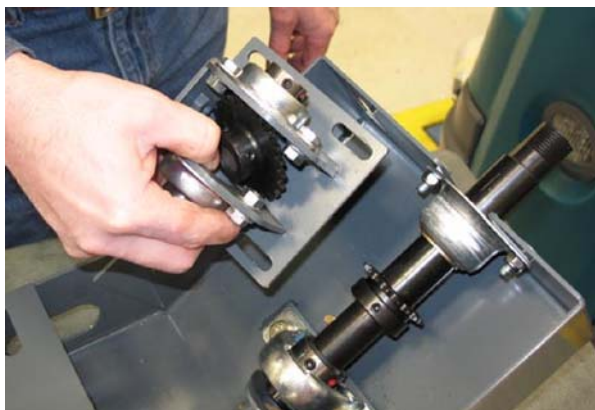

FIG. 38
35. Remove the support plate weldment / flange bearings and steering sprocket. Do not disassemble the flange bearings from the support plate weldment. (Fig. 38)